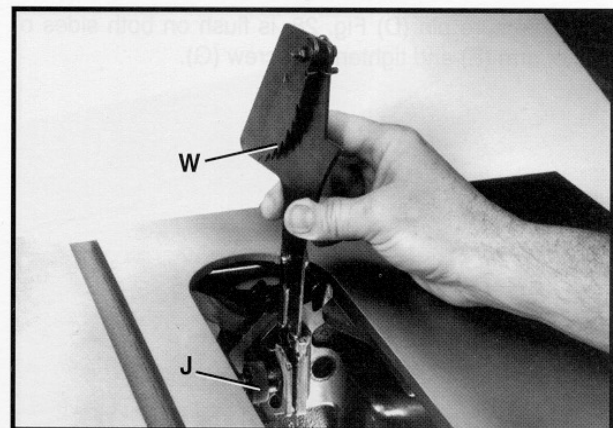
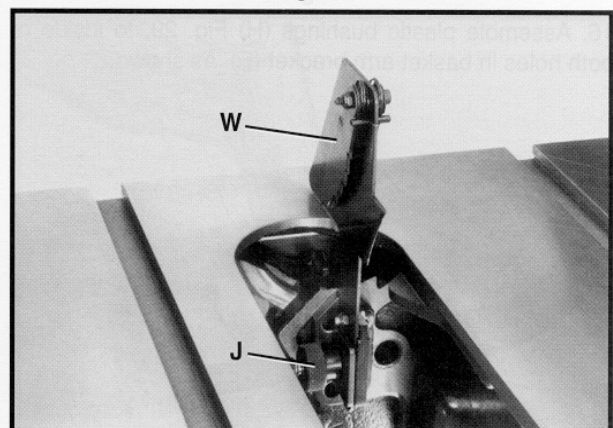

Fig. 24
Fig. 25
12. Loosen knob (J) Fig. 24, and slide splitter (W) down as far as possible into the splitter mounting bracket and tighten knob (J). Fig. 25, illustrates the splitter assembled to the mounting bracket. **IMPORTANT:** When performing non thru-cutting operations, such as dadoing, the splitter (W) Figs. 24 and 25, can be removed by loosening knob (J). This enables you to use the guard baskets for non thru-cutting operations.